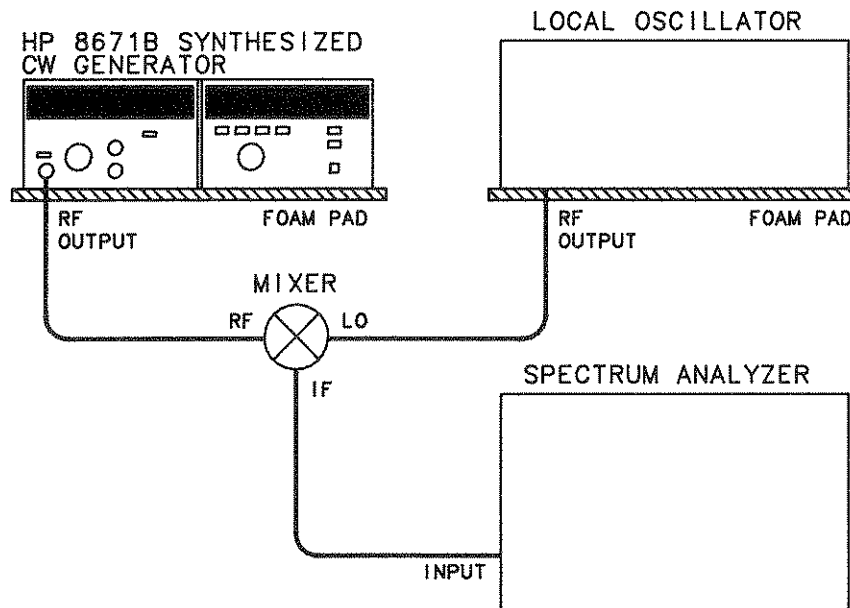

Figure 4-11. Power Line Related Spurious Signals Test Setup
1. Place the CW Generator on a 2-inch foam pad. Connect the equipment as shown in Figure 4-11.